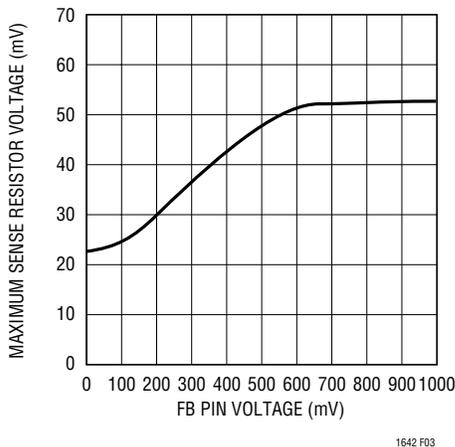

Figure 3. Maximum Sense Resistor Voltage vs FB Voltage
**SENSE (Pin 15):** Current Limit Set. To use the current limit place a sense resistor in the supply path between  $V_{\text{CC}}$  and SENSE. Should the drop across the resistor exceed a threshold voltage the GATE pin is adjusted to maintain a constant load current and the timer at the BRK TMR pin is started. To protect the external FET from thermal damage the circuit breaker trips after the BRK TMR timing cycle. A foldback feature makes the current limit decrease as the voltage at FB approaches ground. Figure 3 quantifies the relationship. To disable the current limit short SENSE to  $V_{\text{CC}}$ .
up; this “foldback” limiting tends to keep the power dissipation in the N-channel pass transistor constant. The output voltage is sensed at the FB pin. The limiting sense resistor voltage is 23mV when FB is grounded, but increases gradually to 53mV when FB exceeds 1V; Figure 3 shows the full dependence.